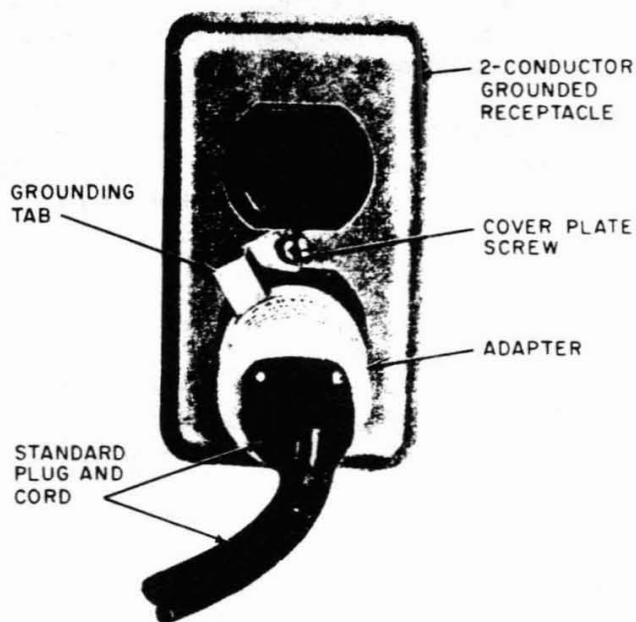

Fig. 10—Grounded 2-Conductor Receptacle
**Box:** Where a building is wired with metallic conduit, armored cable, or nonmetallic sheath cables with a grounding conductor, the outlet boxes should be grounded. When it is known that the outlet is grounded, an approved, properly placed adapter (Fig. 10) shall be used to extend the ground medium to the electrical device.